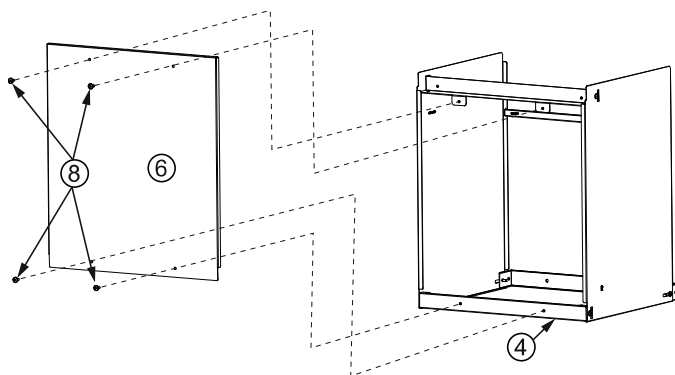

Figure 5 - Attaching the front cover.
20. Install the front cover (6) onto the pipe cover assembly with the short screws (8). See Figure 5.